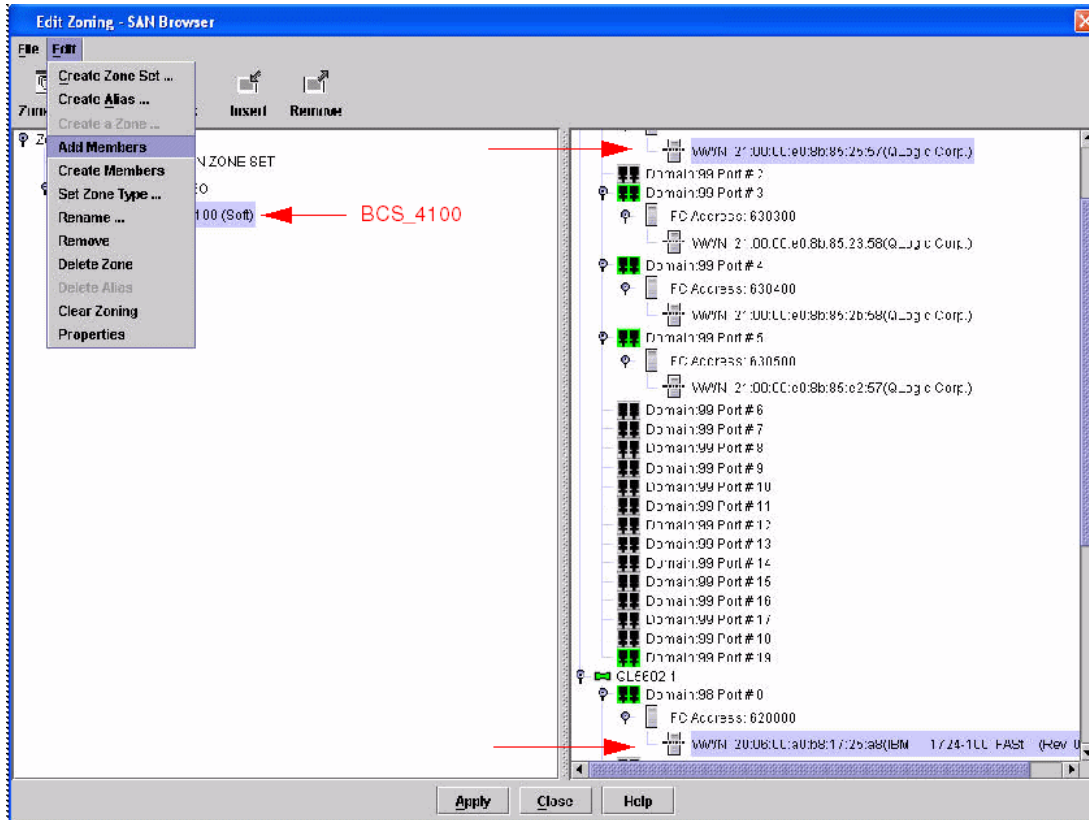

Figure 7-25 Edit Zoning - SAN Browser window
15. In the Edit Zoning - SAN Browser window (Figure 7-25), highlight the zone you created. Select the members you want to be included in the zone. You may use the Control key to select more than one member. Select **Edit** → **Add Members**.